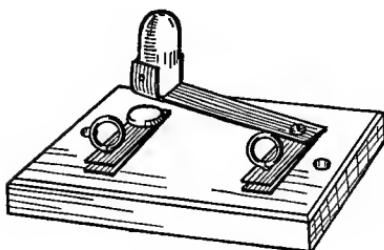
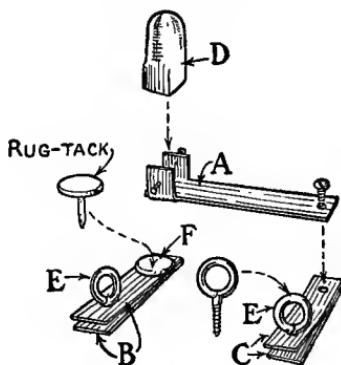
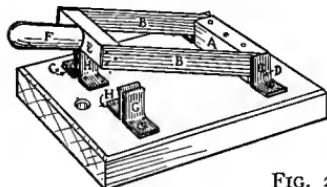

FIG. 246.
FIG. 247.
FIG. 248.
**A Home-Made Switch.** A switch is convenient for opening and closing an electrical circuit, as it saves disconnecting one of the wires. Figure 246 shows a simple home-made switch, and Fig. 247 shows details of its various parts.
FIGS. 246 and 247.—A Home-Made Switch.
**A Double-Pole Knife-Switch** is easy to make, and as it has two sets of binding-posts, it can be used to open or close two circuits with one throw of the switch lever (Figs. 248 and 249). Make the bars *B* out of strips of tin doubled
FIGS. 248 and 249.—A Double-Pole Knife-Switch.
the magnet coil should be connected to a dry-cell, and the other to a switch; and another wire should connect the switch with the dry-cell. Make the switch like the one shown in Fig. 246 or that in Fig. 248. Before making these connections, however, build